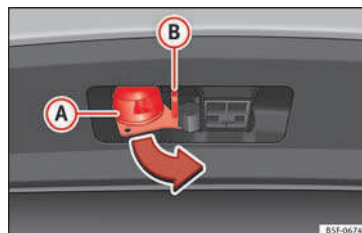

Fig. 190 Turn the 13-pin connector.
- Grip the 13-pin connector at area **A** and remove it in the direction of the arrow **>>> Fig. 190**.
- Grip the 13-pin connector at area **A** and insert it in the opposite direction to the arrow **>>> Fig. 190**.
The safety lug **(B) »» Fig. 190** is used to hook up the trailer's retainer cable.